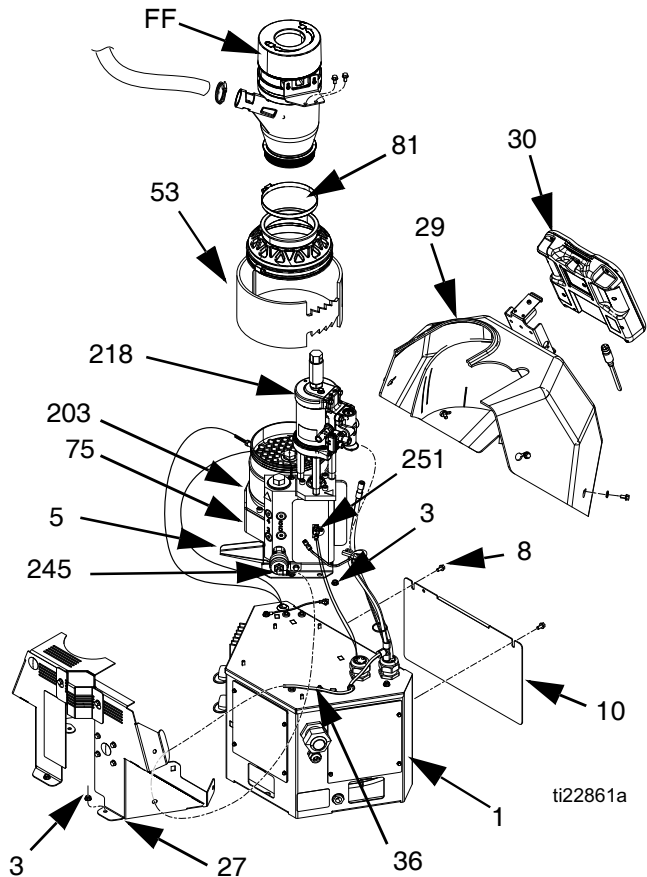
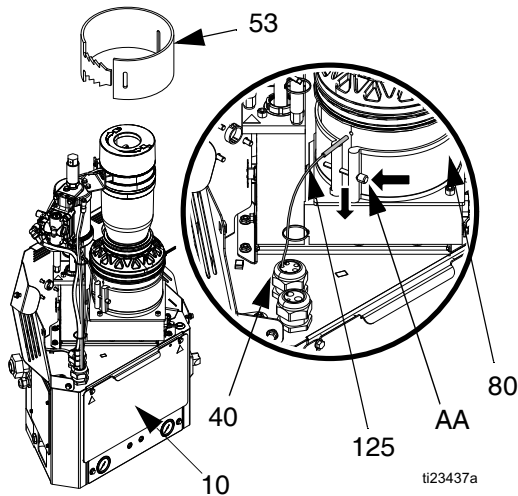

FIG. 37
FIG. 40
5. Remove cable from ADM (30) then slide forward the shroud (29) and remove it from the system.
6. Remove screws (8) then remove electrical enclosure front access door (10).
8. Remove the air tube (36) from the relief valve (245). Pull the air tube from the metal shroud (27).
9. Remove nuts (3) on the back metal shroud (27) then remove shroud.
10. Remove fabric melter insulator (53).
11. Loosen screw (AA) then remove sensor (125). See FIG. 40, page 68.
12. Loosen hose clamp (81) then remove funnel (FF).
13. Remove wire connectors from the over-temperature switch (251).
14. Remove insulators (53, 75) from the melter assembly (5).
15. Disconnect the fill sensor cable from the fill sensor (20). See **Replace Fill Sensor**, page 73.
17. Remove the air tube from the air motor (218).
Disassembly (see FIG. 40):
4. Remove air tube (36) from relief valve. Pull the air tube through the metal shroud (27).
5. Remove nuts (3) then remove metal shroud (27). See FIG. 37, page 65.
6. Remove fabric melter insulator (53).
7. Loosen screw (AA) then remove sensor (125).
8. Remove electrical enclosure access door (10).
9. Disconnect the temperature sensor cable from MZLP connector labeled J5. See FIG. 40.
Reassembly (see FIG. 40):